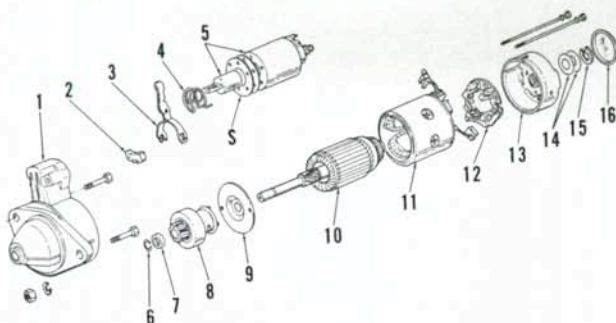

Fig. 157—Exploded view of starting motor and solenoid typical of 1100, 1110, 1200, 1310 and 1510 models.
95. Refer to appropriate Fig. 157 or 158 for an exploded view of starter and solenoid. Clearance (C-Fig. 159) between pinion and thrust collar should be 0.2-1.5 mm (0.008-0.060 inch) for all models. To check clearance, first disconnect and insulate field coil wire from solenoid terminal. Engage solenoid by attaching jumper cables as shown at (1, 2 and 3). Do not leave solenoid engaged too long or overheating may result. Push pinion back with thumb to remove slack and use a feeler gage to measure clearance (C). Clearance can be adjusted by adding or removing shims (S-Fig. 157) between solenoid and drive housing.